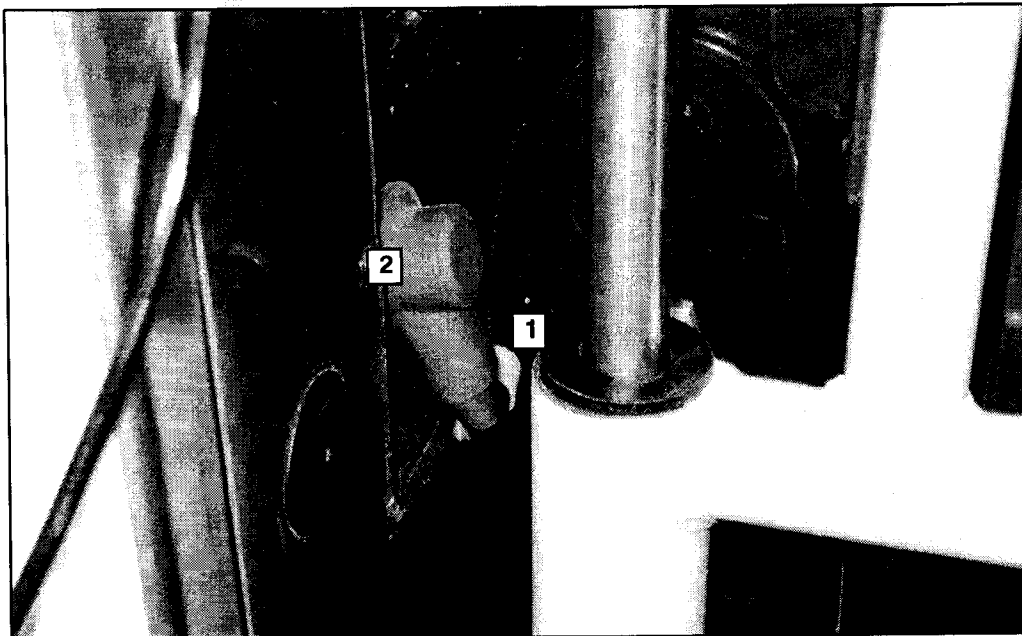

Figure 5. Reference photo of wheelchair compartment.
9. In the wheelchair compartment, remove the red protective boot from the one (1) wheelchair lift electrical terminal and apply high tack sealant to the terminal (refer to Figure 5).